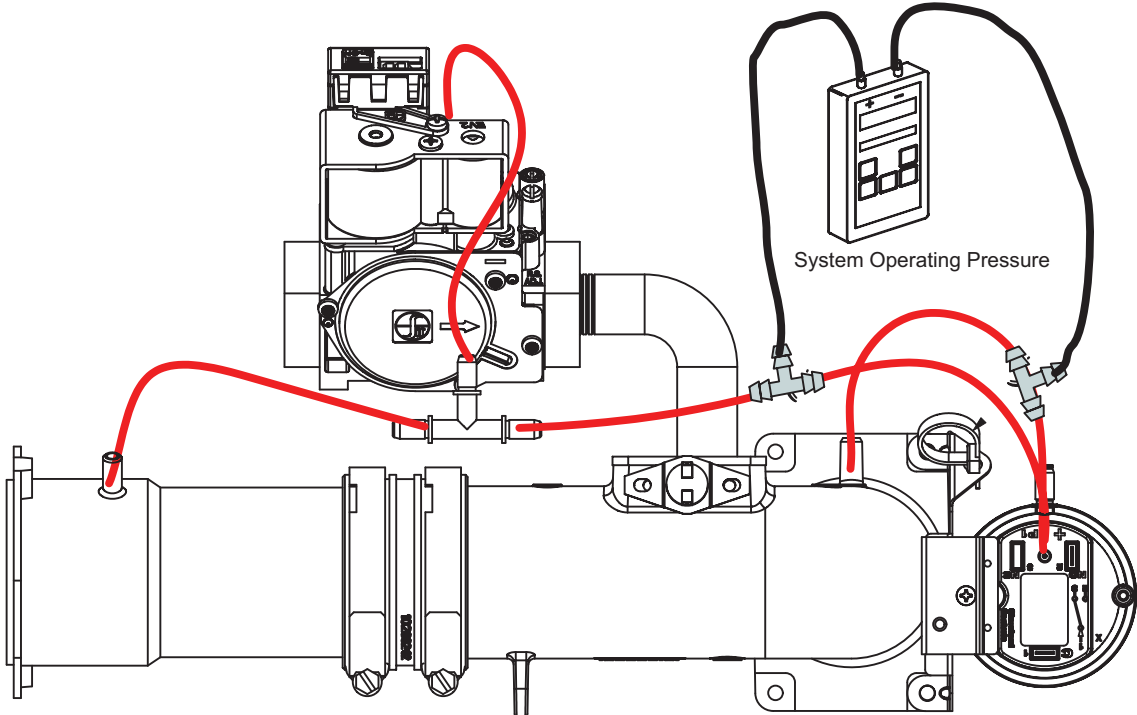

FIGURE 4
- 3 - Install hoses and meter as shown in figure 4 and 5 for system operating pressure measurement. The system operating pressure is monitored by the pressure switch and is the pressure drop across the air orifice.